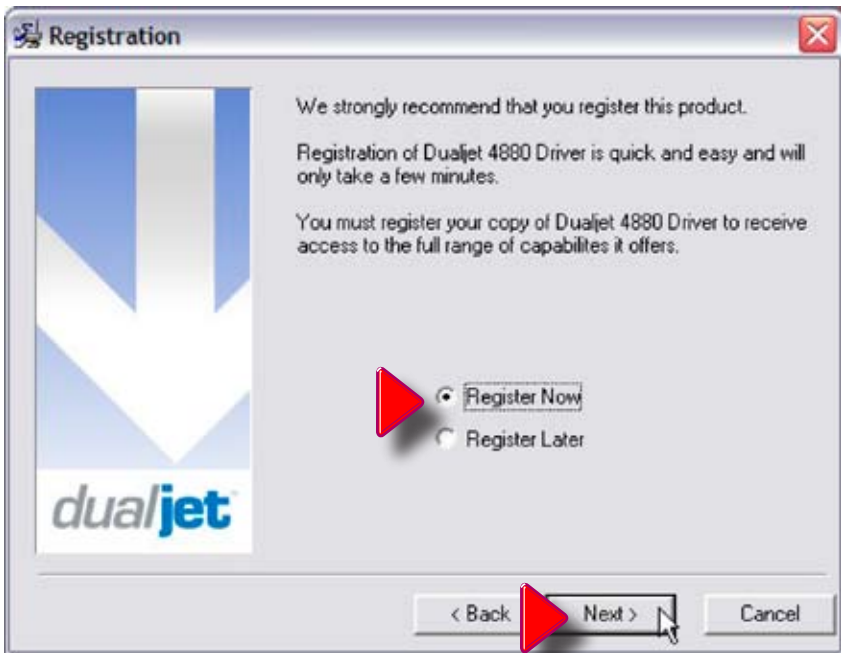

Figure 6
5. If you choose **Register Now**, fill in the **radio button**, (as shown in **Fig. 6** below), and click **“Next”**.